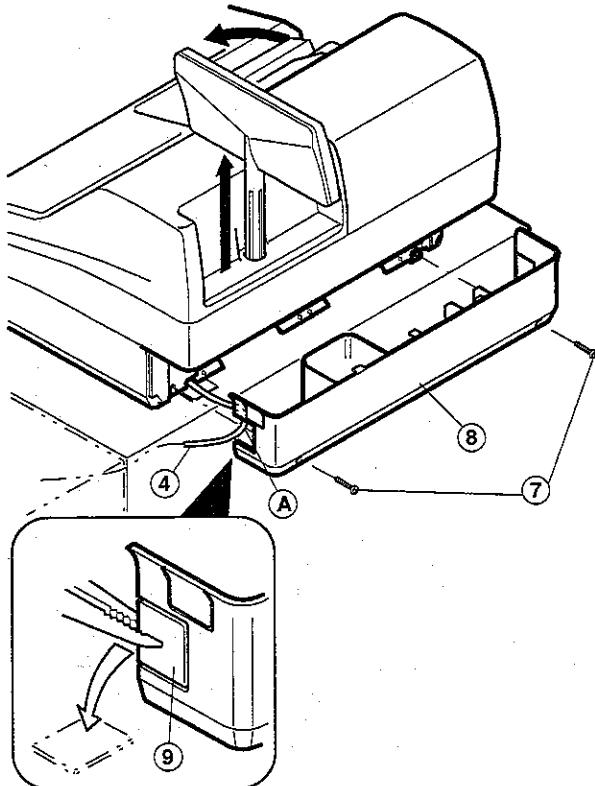

Fig. 3
- 7) Remove two rear cover holding screws ⑦ and remove the rear cover ⑧ (Fig.3).
- 8) Break open the knockout ⑨ of the rear cover ⑧ using the tool (Fig.3).
- 9) Route the option drawer cable ④ through the hole ⑩ and fasten the rear cover (Fig.3).